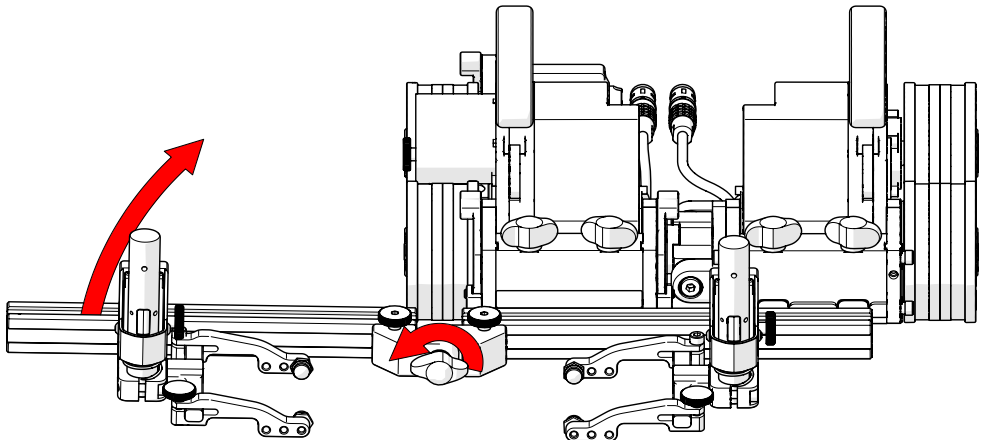

Fig. 237 - Lift frame bar to avoid interference
2. Loosen the pivot wing knob and raise the frame bar to an angle greater than the surface to be scanned (Fig. 237). Tighten the pivot wing knob and place crawler on scan surface (see "Placement of Crawler on Inspection Surface" on page 22)